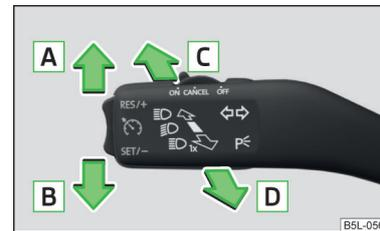

Fig. 46
- Pull the turning signal and main beam lever (» Fig. 46 on page 65) towards the steering wheel, push down and hold in this position.
Lever positions » Fig. 46